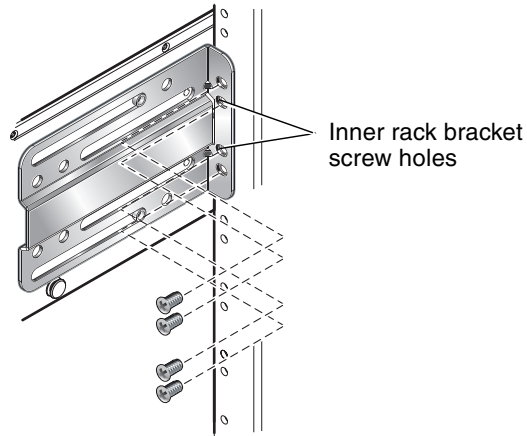

FIGURE 3-11 Attaching the Front of the System Chassis to the Rack
4. Hold the system chassis up to the rack and attach the front brackets (FIGURE 3-11).